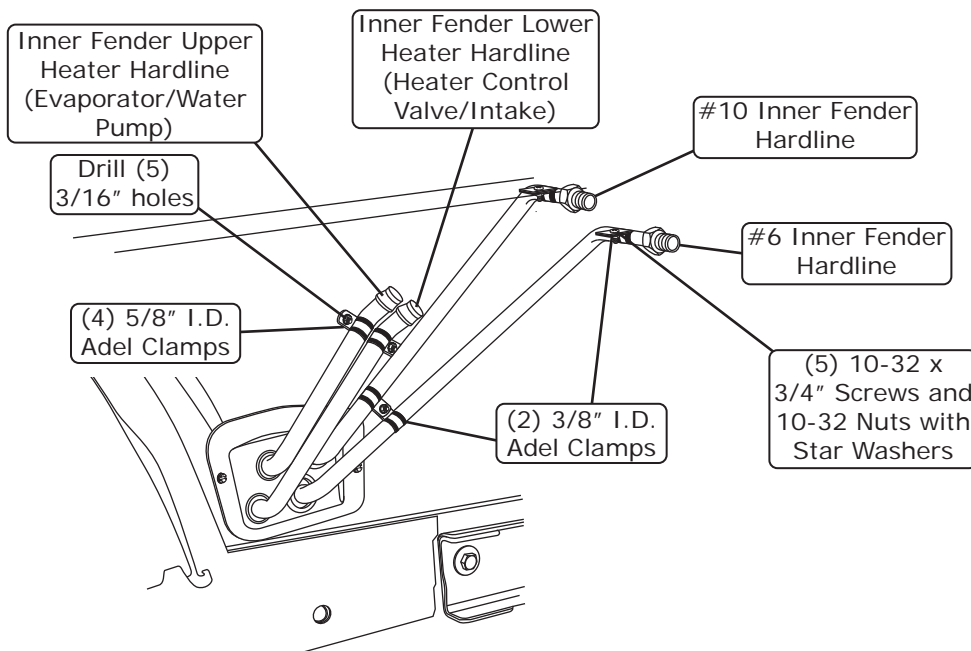

Figure 1b
4. Install hardlines in the inner fender cap as shown in Figure 1b, below.
5. Install Adel clamps onto the hardlines as shown in Figure 1b, below.
6. Using Adel clamps as a guide, drill (5) 3/16" holes in the inner fender. Secure Adel clamps and hardlines to inner fender using (5) 10-32 x 3/4" pan head screws and (5) 10-32 nuts with star washers as shown in Figure 1b, below.